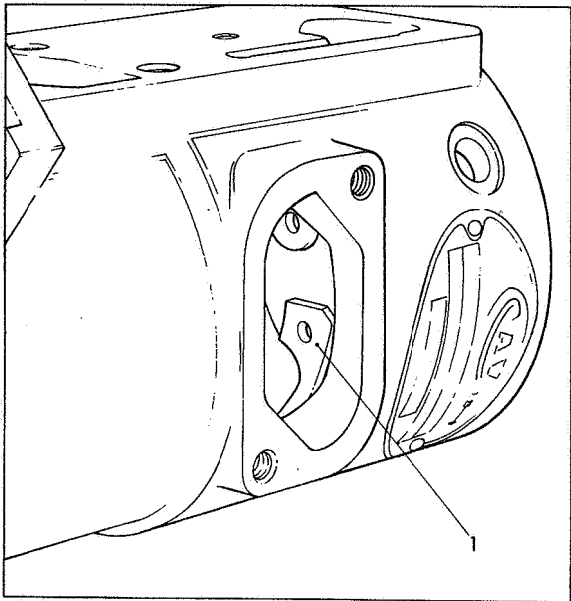

Fig 16 Positioning circlip
Insert circlip (1) Fig 16 against the shoulder in pump housing bore, positioning the square ear of the circlip centrally in the housing inspection aperture as shown. Insert cam ring against